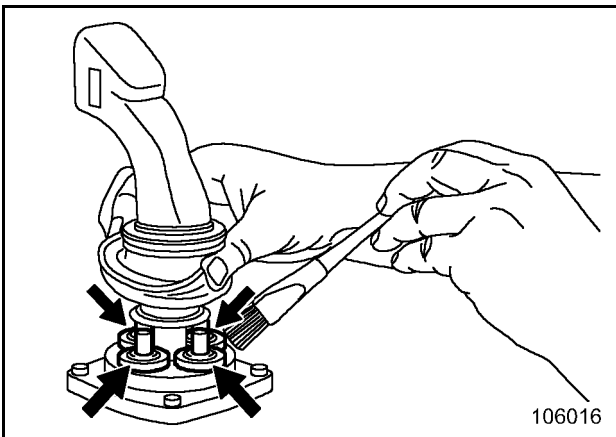

Fig. 3-67:
- Apply a thin layer of low temperature grease on the control spools, the actuator plate above and the cardan joint of the joysticks (arrows, Fig. 3-67:) to prevent jamming of the joysticks.